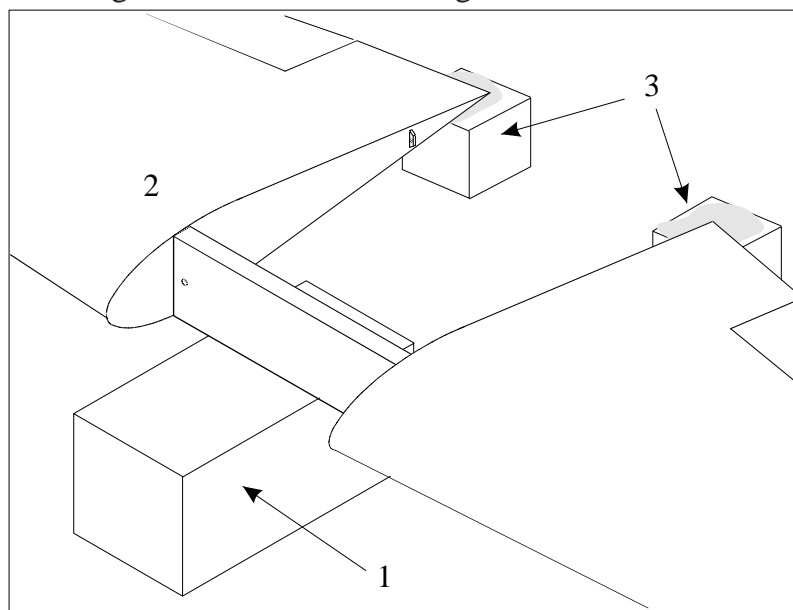
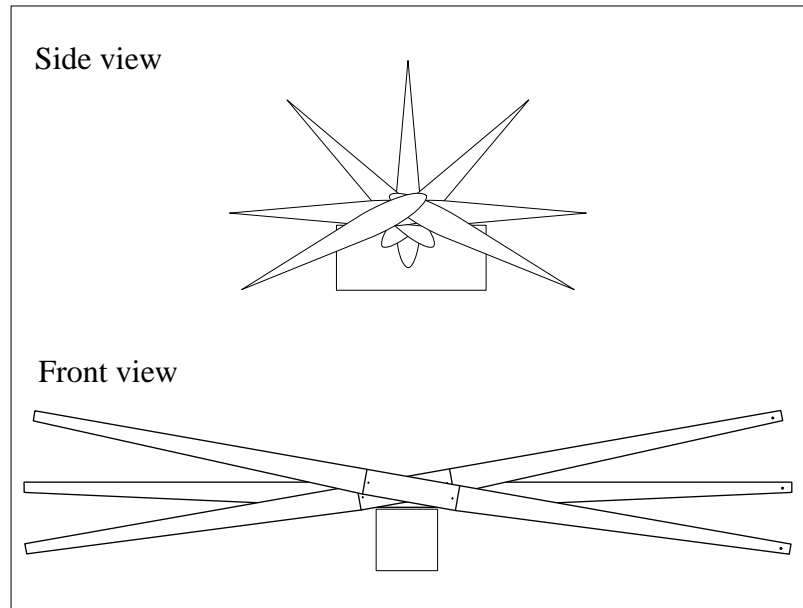

Figure 4 Wing Supports
Figure 5 *Wing Positions*
- 3 Place the wing (2, Figure 4) on an appropriate support (1) allowing rotations as shown in Figure 5.
- 2 Disconnect the ground bonding leads and if necessary (LH wing tank) the electrical wiring of the lever-type tank unit (3, Figure 4).
- 4 Remove the inspection door flange (1).
- 5 Push the inspection door (2) into the tank, then turn and remove.